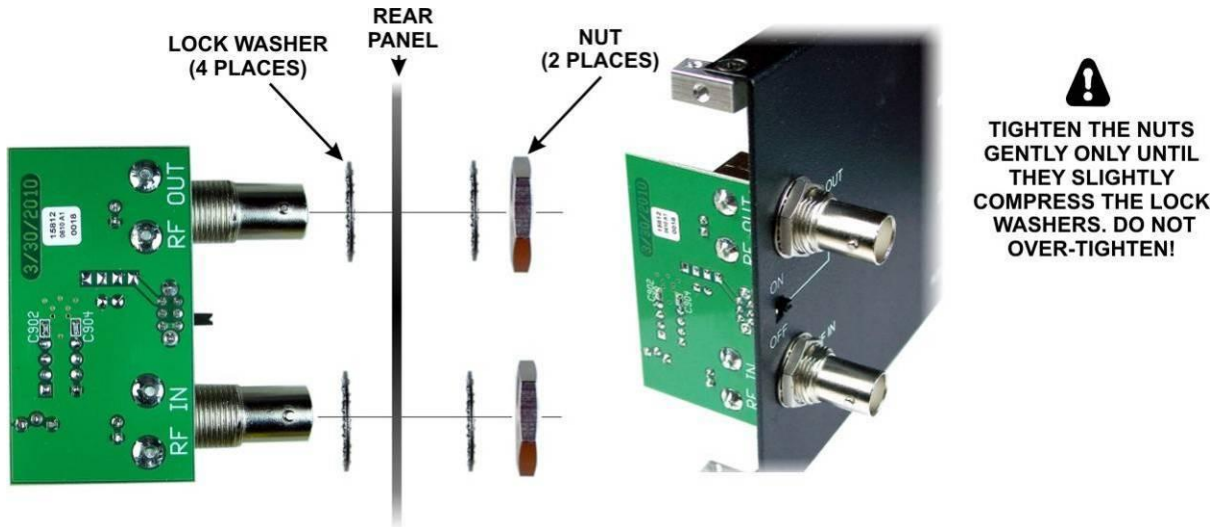

Figure 19. RF Board Installation.
- ☐ Mount the board on the rear panel as shown in Figure 19. Be sure two lock washers are between the BNC connectors and the inside surface of the rear panel and two lock washers are between the nuts and the rear panel as shown. **Tighten the nuts gently until they slightly compress the lock washers. That will hold the assembly securely in place. Over-tightening may place unnecessary strain on the RF board.**